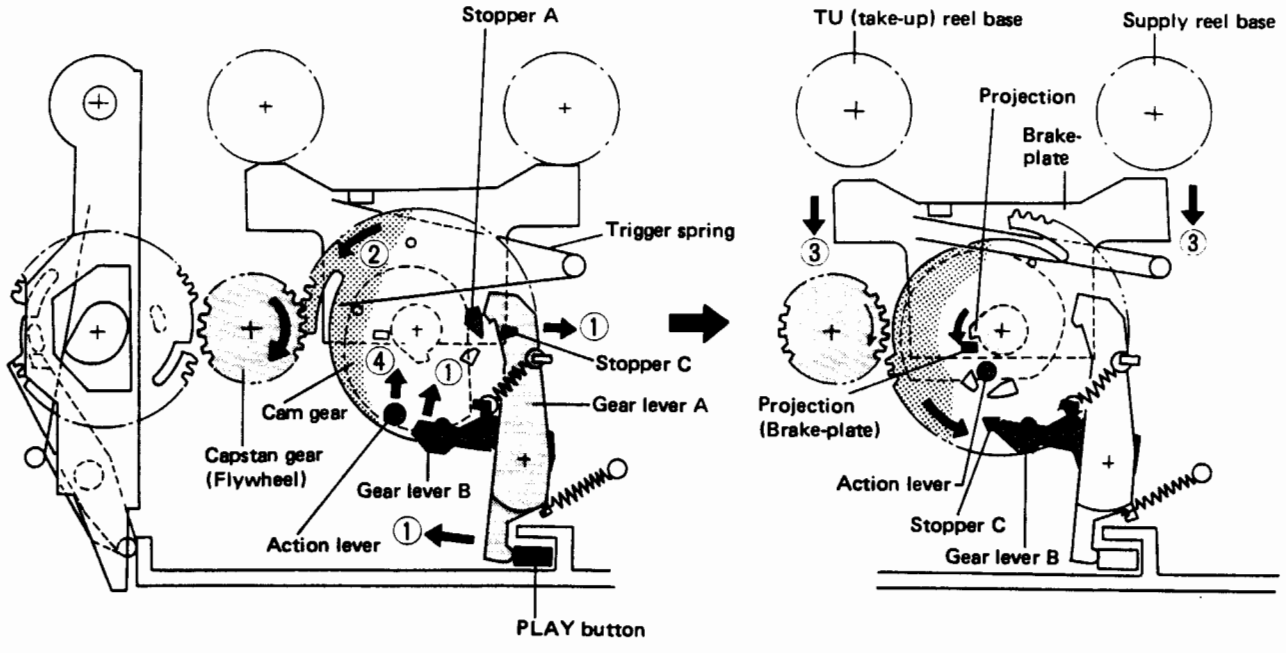
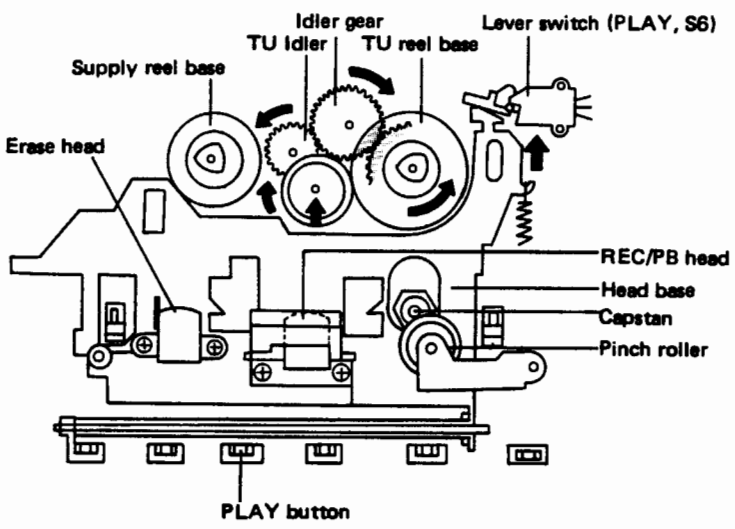

Fig. 15-2 STOP → PLAY operation
Fig. 15-3 PLAY operation
### 15.2 PLAY OPERATIONS (Fig. 15-2, 15-3)
1. When the PLAY button is pressed down, the shape of the button forces gear lever A in the ① direction. Also, at the same time, gear lever B travels in the ① direction, and gear lever A and cam gear stopper A are disengaged.
2. The cam gear is forced in the direction ② by the trigger spring. Consequently, it starts rotating in the direction ② (CCW) and meshes with the capstan gear (flywheel).
3. As the capstan gear and cam gear are now engaged, the force transmitted by the motor and flywheel rotate the cam gear further, until stopper C makes contact with gear lever B. It stops in that position. At this point, the capstan gear and cam gear are no longer meshed. (See right side of Fig. 15-2).
4. Now, the projection on the cam gear boss is forcing the brake-plate down in the direction ③, and braking force is released from the reel base.
5. Also, the cam shape of the cam gear is moving the action lever in the ④ direction.
6. The head base is lifted by the action of this action lever, placing it in the PLAY position and throwing the PLAY switch to the PLAY side. (See Fig. 15-3). This action also presses down on the pinch roller pressure spring causing pressure contact between the pinch roller and capstan, and starting tape travel.